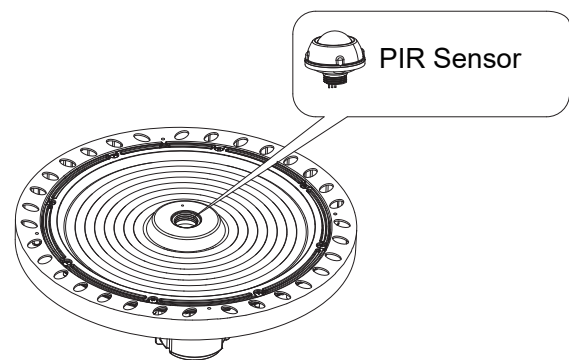

Figure 13
Step 2. Twist-lock the DC sensor to the base to make it work properly, use a remote control to adjust the working mode as per demand. (Figure 13)